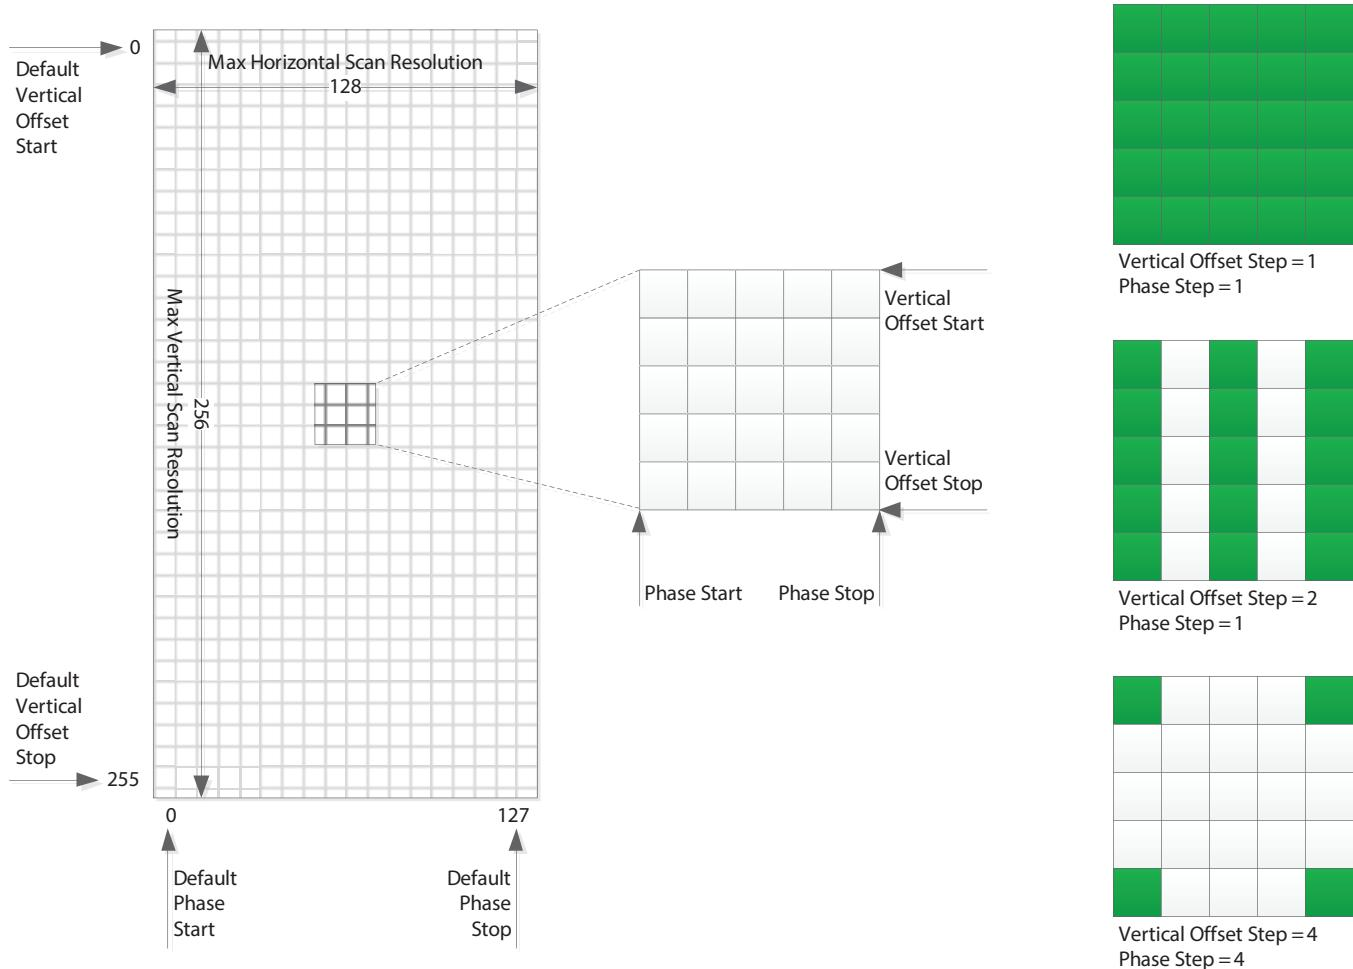

Figure 4-6: Eye Scan Matrix Parameters
Figure 4-6 shows a visual representation of the scan matrix and indicates the spatial parameters that determine the scan area and resolution. Running a scan using the default offset and step parameters, results in 32768 (128x255) samples. The number of samples and thus, the total scan time can be reduced to meet the needs of the application. The scan area can be reduced by reducing the span determined by the vertical and phase start and stop offsets, or the resolution can be reduced by increasing the step size between adjacent samples. On the right in Figure 4-6, there are three step settings used as examples, however there are a total of nine combinations possible. See Table 4-5 for the register addresses and parameter names of the spatial eye scan parameters.
- ◆ Making reference to the Matrix shown in Figure 4-6, the eye scan data starting at 0x6CC3 is stored in order from left to right, top to bottom, from the last stored vertical/horizontal position in the matrix.